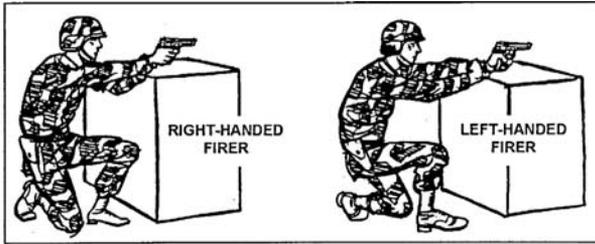

Figure 071-004-0006-8. Kneeling position
d. Standing-without-support position (figure 071-004-0006-9). To assume this position—
- (1) Face the target.
- (2) Place your feet at a comfortable distance apart.
- (3) Wrap your nonfiring hand around the fist or wrist of your firing hand. Lock the wrist and elbow of your firing arm toward the target.
- (4) Keep your body straight.